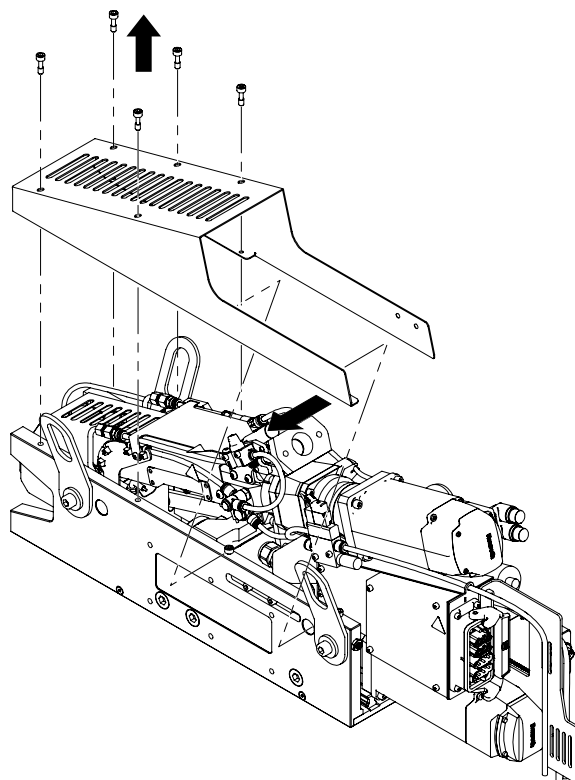

Figure 8-16 Removing the top cover
2. Remove the top cover of the E-Multi Mini. See Figure 8-16 Removing the top cover.